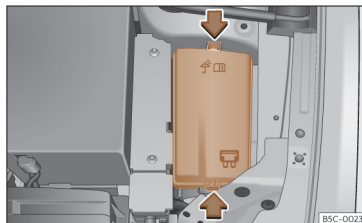

Fig. 219 In the engine compartment: lid of the fuse box.
- Press the locking tabs to unlock the fuse box cover >>> **Fig. 219**.